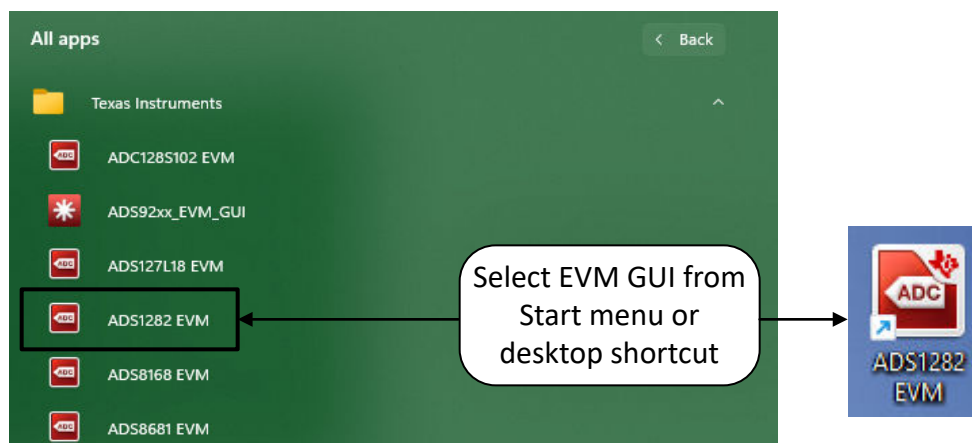

Figure 4-2. Launch the ADS1282EVM GUI Software
3. Start the software GUI as shown in Figure 4-2. Notice that the LEDs blink slowly when the FPGA firmware is loaded on the PHI. This loading takes a few seconds. LED D3 on the ADS1282EVM illuminates once a connection has been established.